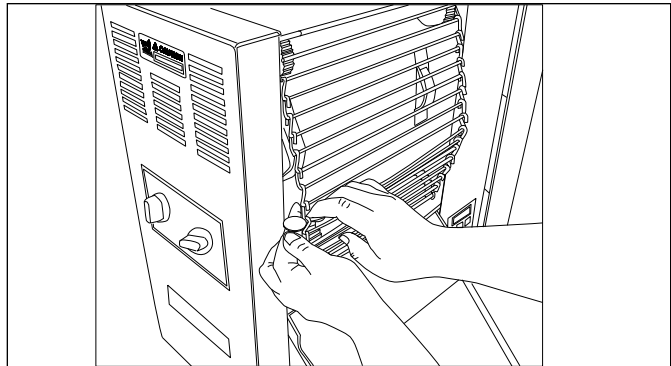

Figure 11. Removing Conveyor Belt Chains
4. Stand a U.S. Dime 11/16" (18 mm) coin on end between the frame and the chain (Figure 11).